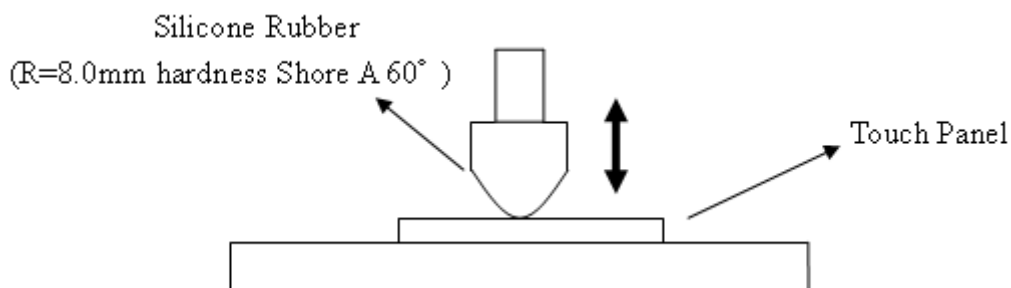

Fig. 6-1
6.1.1 Touch panel is hit 36 millions times with a silicone rubber of R8.0mm finger (see Fig.6-1), hitting rate is by 250g at 2 times per second. The measurement must satisfy the following: